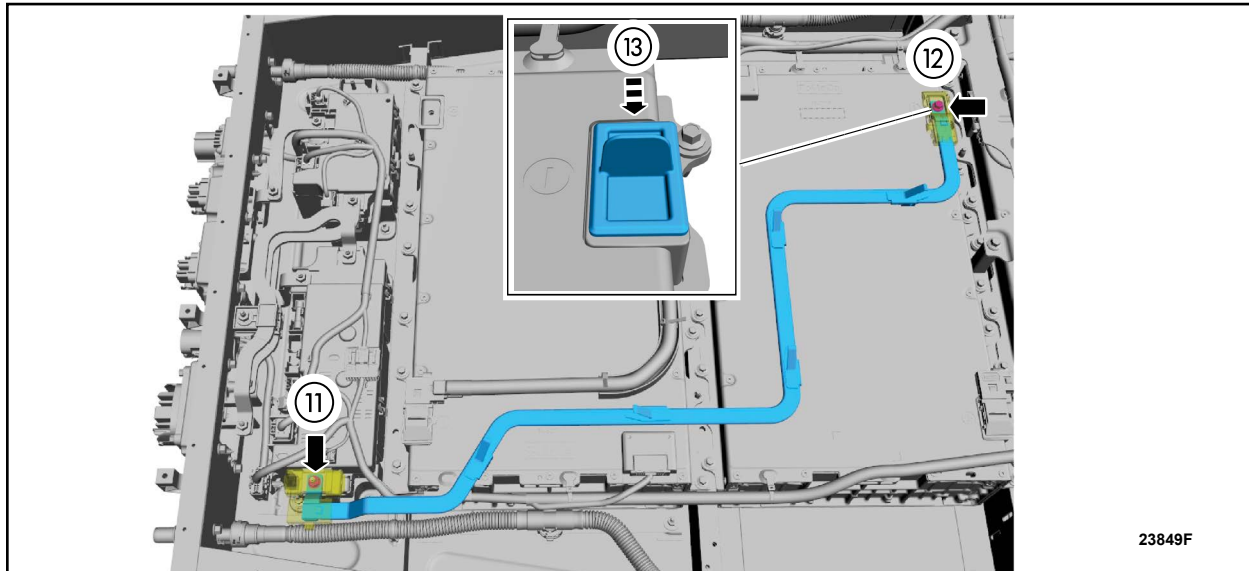

FIGURE 6
11. Open the terminal cover and remove the bus bar nut. See Figure 6.
12. Open the terminal cover, remove the bolt and the bus bar. See Figure 6.
13. Install the battery module terminal cover. See Figure 6.